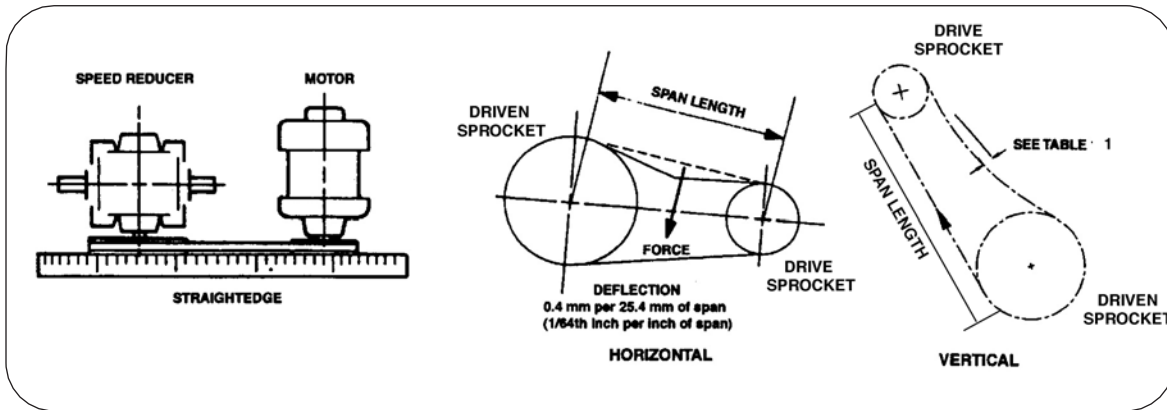

Figure 4. Reducer / Motor Alignment and Tension Adjustment
1. Check sprocket alignment using a straight edge or taut cord stretched across the faces of the drive sprocket and the driven sprocket (Figure 4). The tolerance is ± 0.5 degrees or 3.5 mm per 0.3 m (1/8" per foot).
3. Check roller chain tension. Deflection of the span shown is in Figure 4 and Table 1.